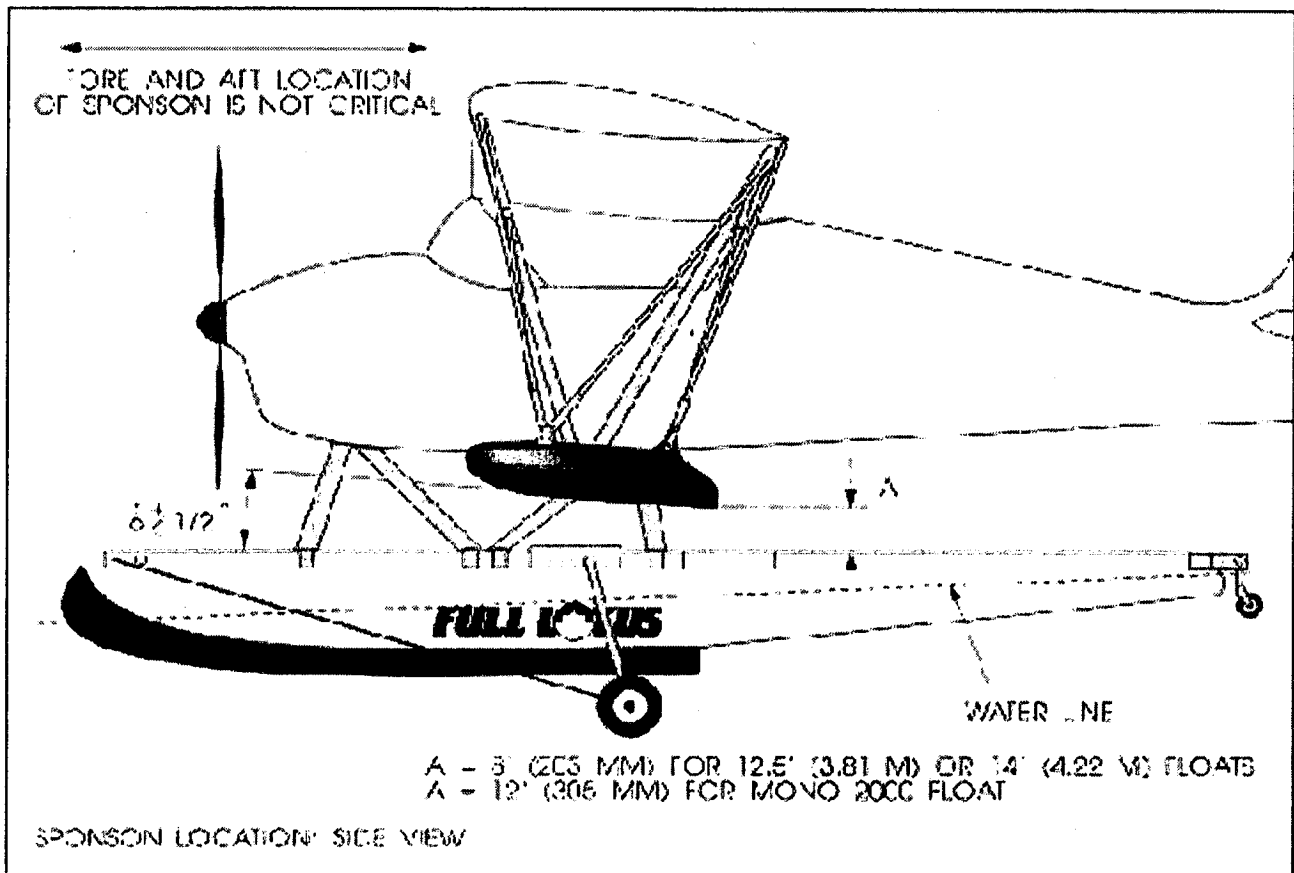

Figure 11: Sponson mounting on strut braced wings, sideview.
plywood and blocks. Locate it below the sponson attachment point where the aircraft wing strut secures to the wing as shown in Fig. 11 and 12. Make the surface parallel to and at the same height as the top of the stiffener tubes. Use a straightedge or a string and a carpenter's level to project the height of the top of the stiffener tubes to the flat surface.
This is the height of the rear of the sponson as shown in Fig. 11 dimension "A".
5. To establish fore and aft position of the sponson: place the front of the sponson slightly behind the wing spar as shown in Fig. 11. Fore and aft position is not critical.
6. To set the angle of the sponson relative to the float: set the flat bottom surface of the sponson at a $6 \pm 1/2^\circ$ positive angle of attack relative to the stiffener tubes of the float as shown in Fig. 11.